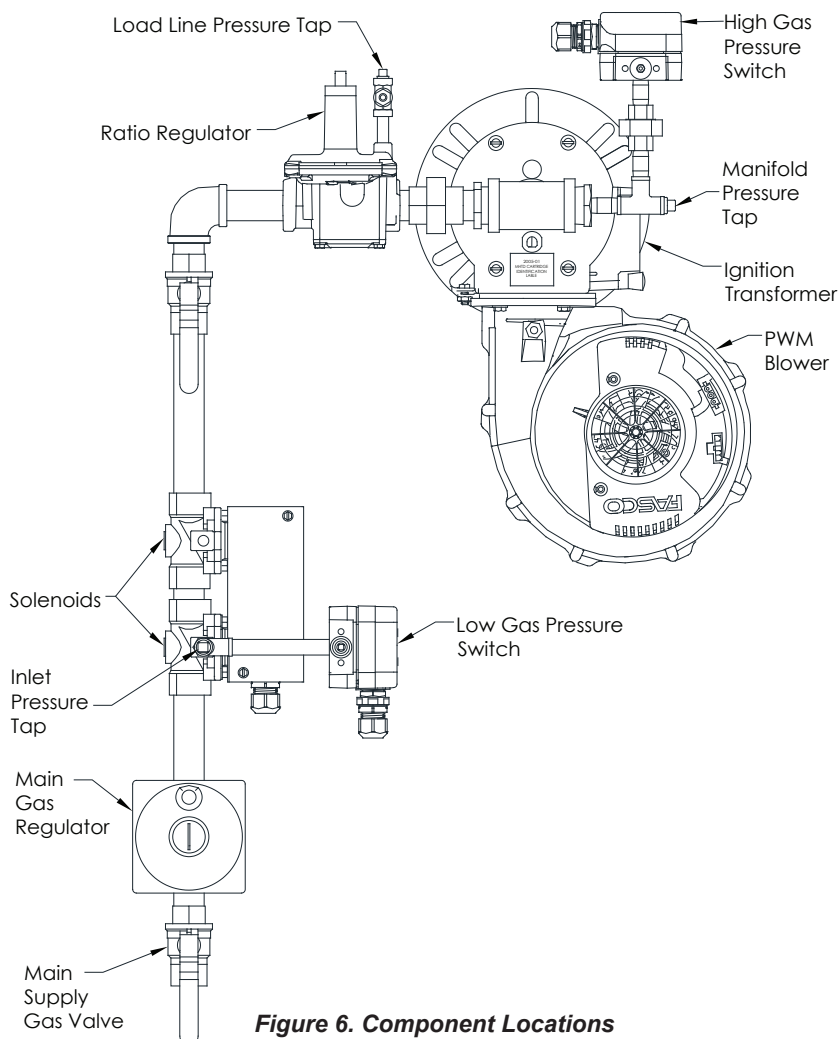

Figure 6. Component Locations
- If the burner piping must be rearranged because of space limitations, be sure to carry out the general arrangement shown in Figure 6. Refer to valve and regulator manufacturer specifications for acceptable mounting orientations.
Before opening the Main Supply Gas Valve (Figure 6), verify the inlet pressure is below the maximum inlet pressure specified on the burner specification label (Figure 4). Exposing components to pressures above the maximum inlet pressure can cause damage.
Install the necessary fittings so that pressure can be measured at the three points listed below. Reference Figure 6. Refer to the appendix file supplied with the burner for information regarding your specific unit.
Use a manometer to check the inlet pressure at the Inlet Pressure Tap (Figure 6). Turn the burner up to high fire by applying an input signal of 10V DC. The inlet pressure should be 7" W.C. while the burner is running at high fire. Adjust the main regulator in small increments if the inlet pressure is different.
Measure the manifold pressure at the Manifold Pressure Tap and the load line pressure at the Load Line Pressure Tap as shown in Figure 6. Turn the burner down to low fire by applying an input signal of 0V DC. Let the burner run for a few minutes, then adjust the ratio regulator (Figure 6) as shown in Figure 7 until the manifold pressure and O₂ match the values in Table 5. Adjusting the ratio regulator CW will increase manifold pressure and decrease O₂. Adjusting the ratio regulator CCW will decrease manifold pressure and increase O₂. Make these changes in small increments until the required manifold pressure and O₂ are achieved. If there are issues with achieving the desired rate or if a different rate than listed is required, contact Midco. Refer to the Check Emissions section for additional information regarding emission reading.
Remove the call for heat (open heat enable contact) and wait for the post-purge to finish. Once the controller reads OFF close the Main Supply Gas Valve (Figure 6). Turn off the main power disconnect. Turn OFF the on/off switch on the burner control panel door. Remove pressure tap fittings and replace pipe plugs.